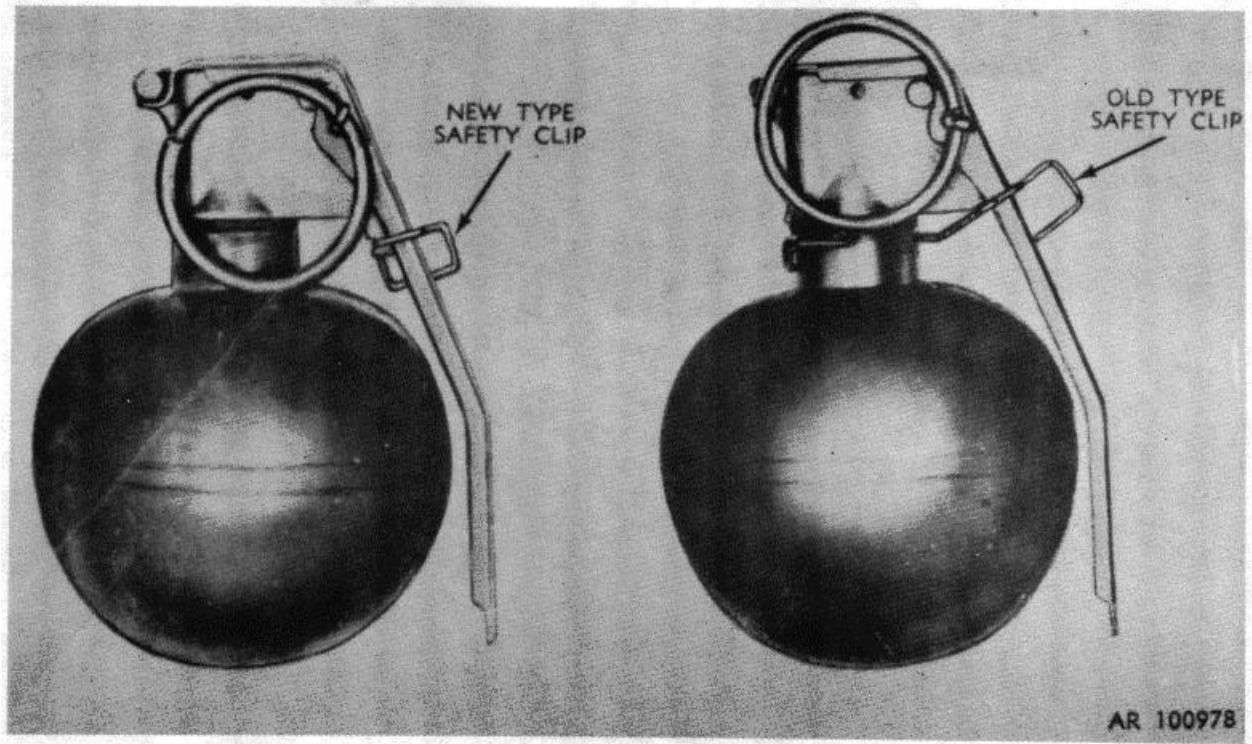

Figure 3-6. Fuze seated w/safety clips.
(8) Fuze seated and correct assembly of safety clip (when installed) (fig. 3-6).
(a) Hold the fuzed grenade in palm of hand with fuze up (1, fig. 3-6).
(b) Turn fuze in a clockwise direction until handtight (2, fig. 3-6).